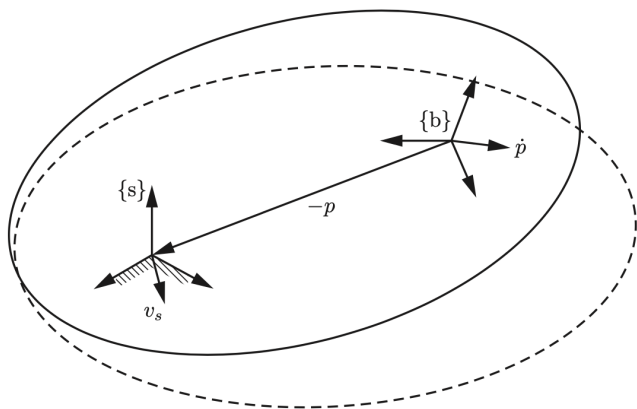

Figure 3.17: Physical interpretation of v_s . The initial (solid line) and displaced (dashed line) configurations of a rigid body.
- The physical meaning of v_s can now be inferred: imagining the moving body to be infinitely large, v_s is the instantaneous velocity of the point on this body currently at the fixed-frame origin, expressed in the fixed frame (see Figure 3.17).